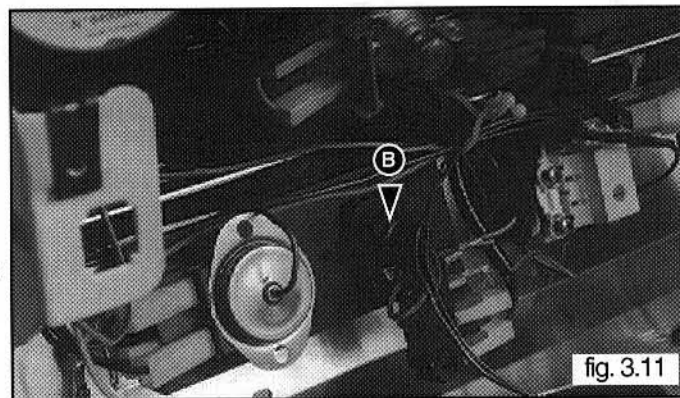

fig. 3.11
- 6 - Loosen screw "B" to slacken the cable holder (see fig. 3.11);